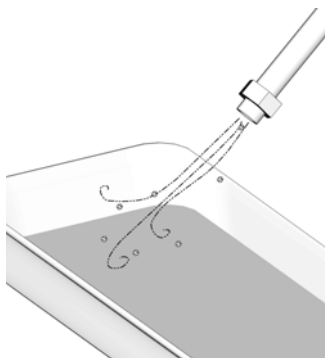

FIG. 58
- b. Blow out entire lubricant supply line with air (FIG. 58).